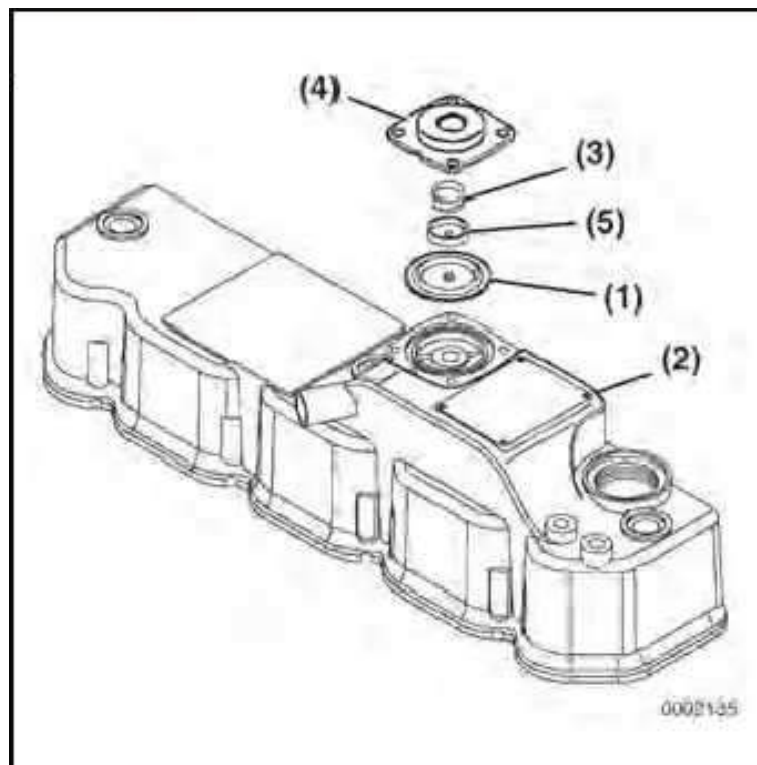

Figure5-19
4TNV98 engines use a crankcase breather system that has a spring-backed diaphragm (**Figure5-19, (1)**) in the valve cover (**Figure5-19, (2)**). When the crankcase pressure reaches a predetermined value, the diaphragm opens a passage that allows crankcase fumes to be routed to the intake manifold.
To inspect the diaphragm and spring (**Figure5-19**
2. Remove the diaphragm cover, spring, diaphragm plate (**Figure5-19, (5)**) and diaphragm.
To inspect the diaphragm and spring (Figure5-19, (3)):
1. Remove the bolts retaining the diaphragm cover (Figure5-19, (4)).